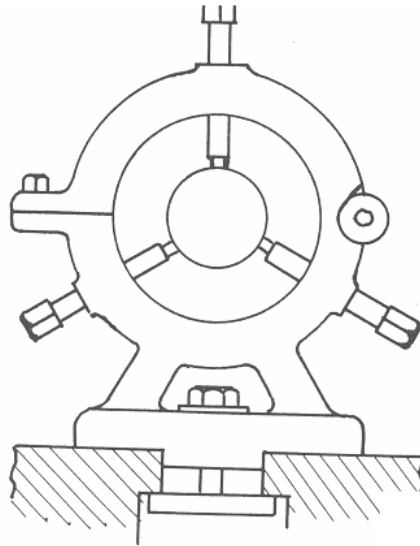

FIGURE 1.3
- 1.7 Identify the component of the lathe shown in FIGURE 1.3.